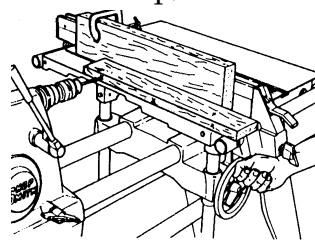

Figure C-34
3. Mark the holes on the stock, and lay it against the scrap. Make fine adjustments with the table height crank. See Figure C-34. Clamp the stock to the table.